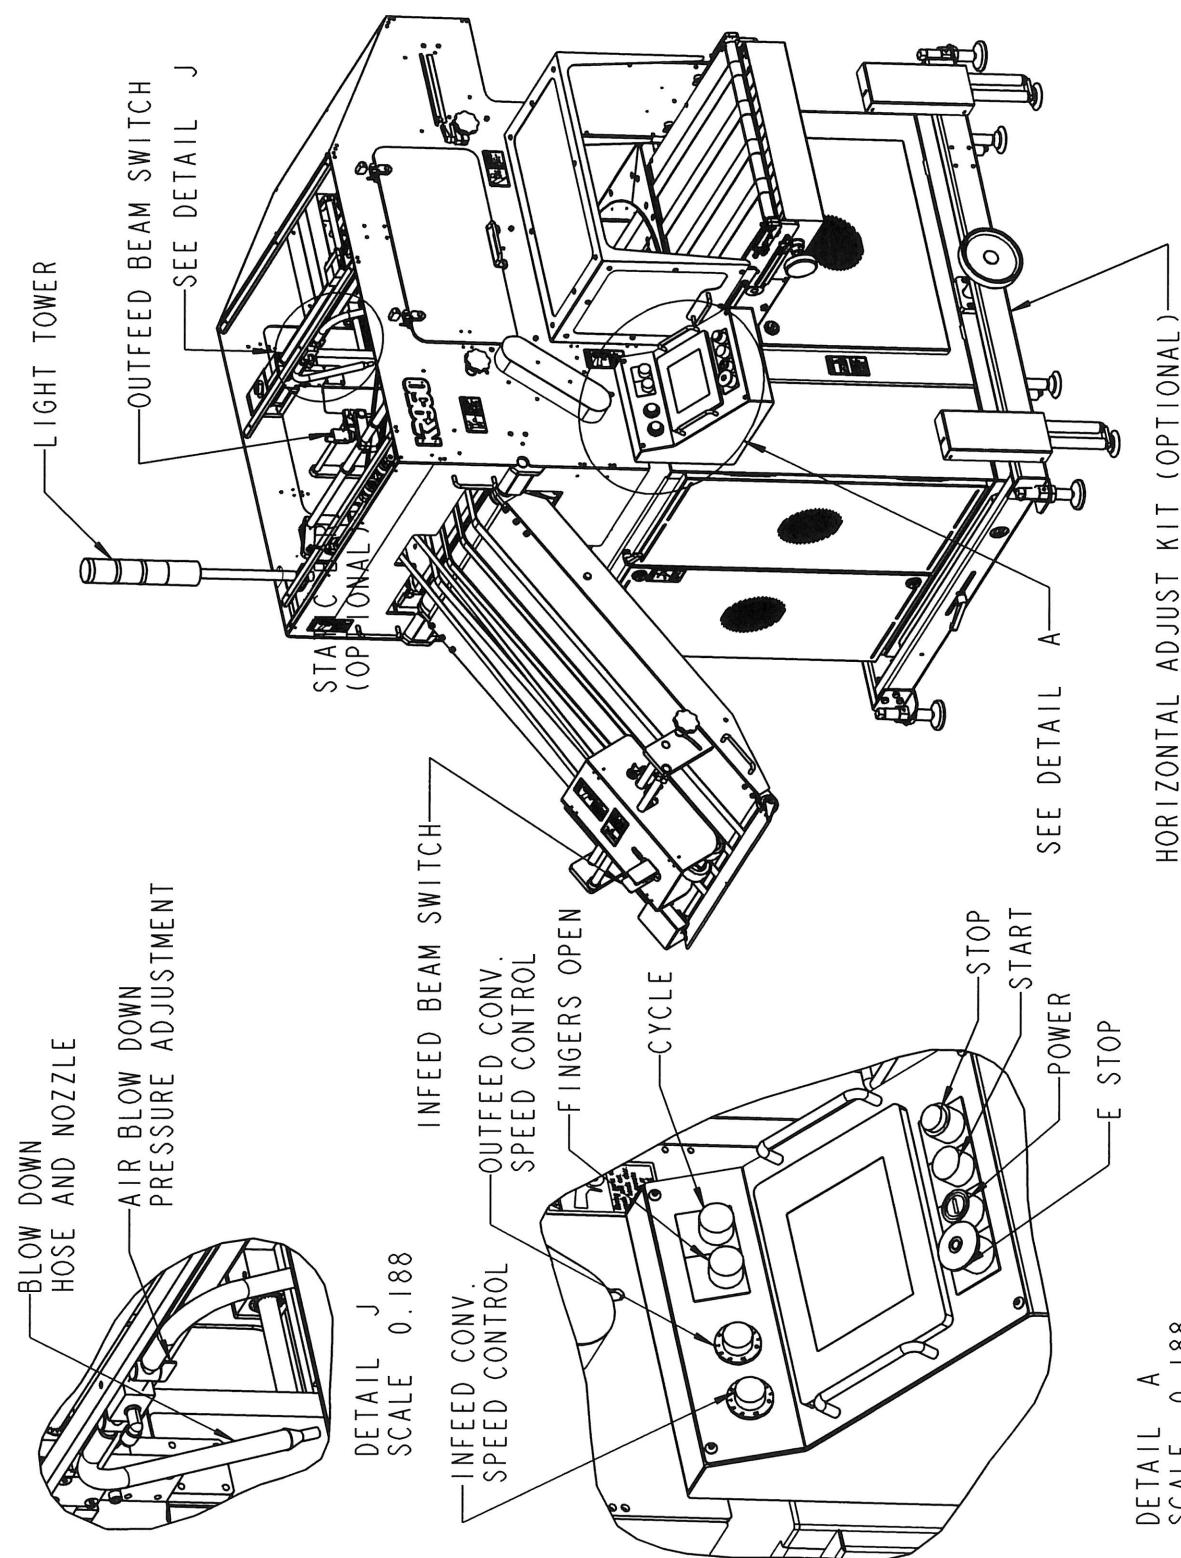

FIGURE 15.0
4.2.1 Main Control Panel and Push Button Station: (See Figure 15.0) The main control panel is where the operator controls the machine and is referred to as the OCP (Operator Control Panel). The control panel swivels to either side of the stacker and has a locking bolt with a handle to lock in position.. The control panel contains pushbuttons, speed controls, and a touch screen. Section 4.3 describes the functions of the touch screen. With the exception of the power pushbutton, the pushbuttons on the main control panel are repeated on the push button station located above the B discharge. The functions of the buttons and the speed controls are described below: